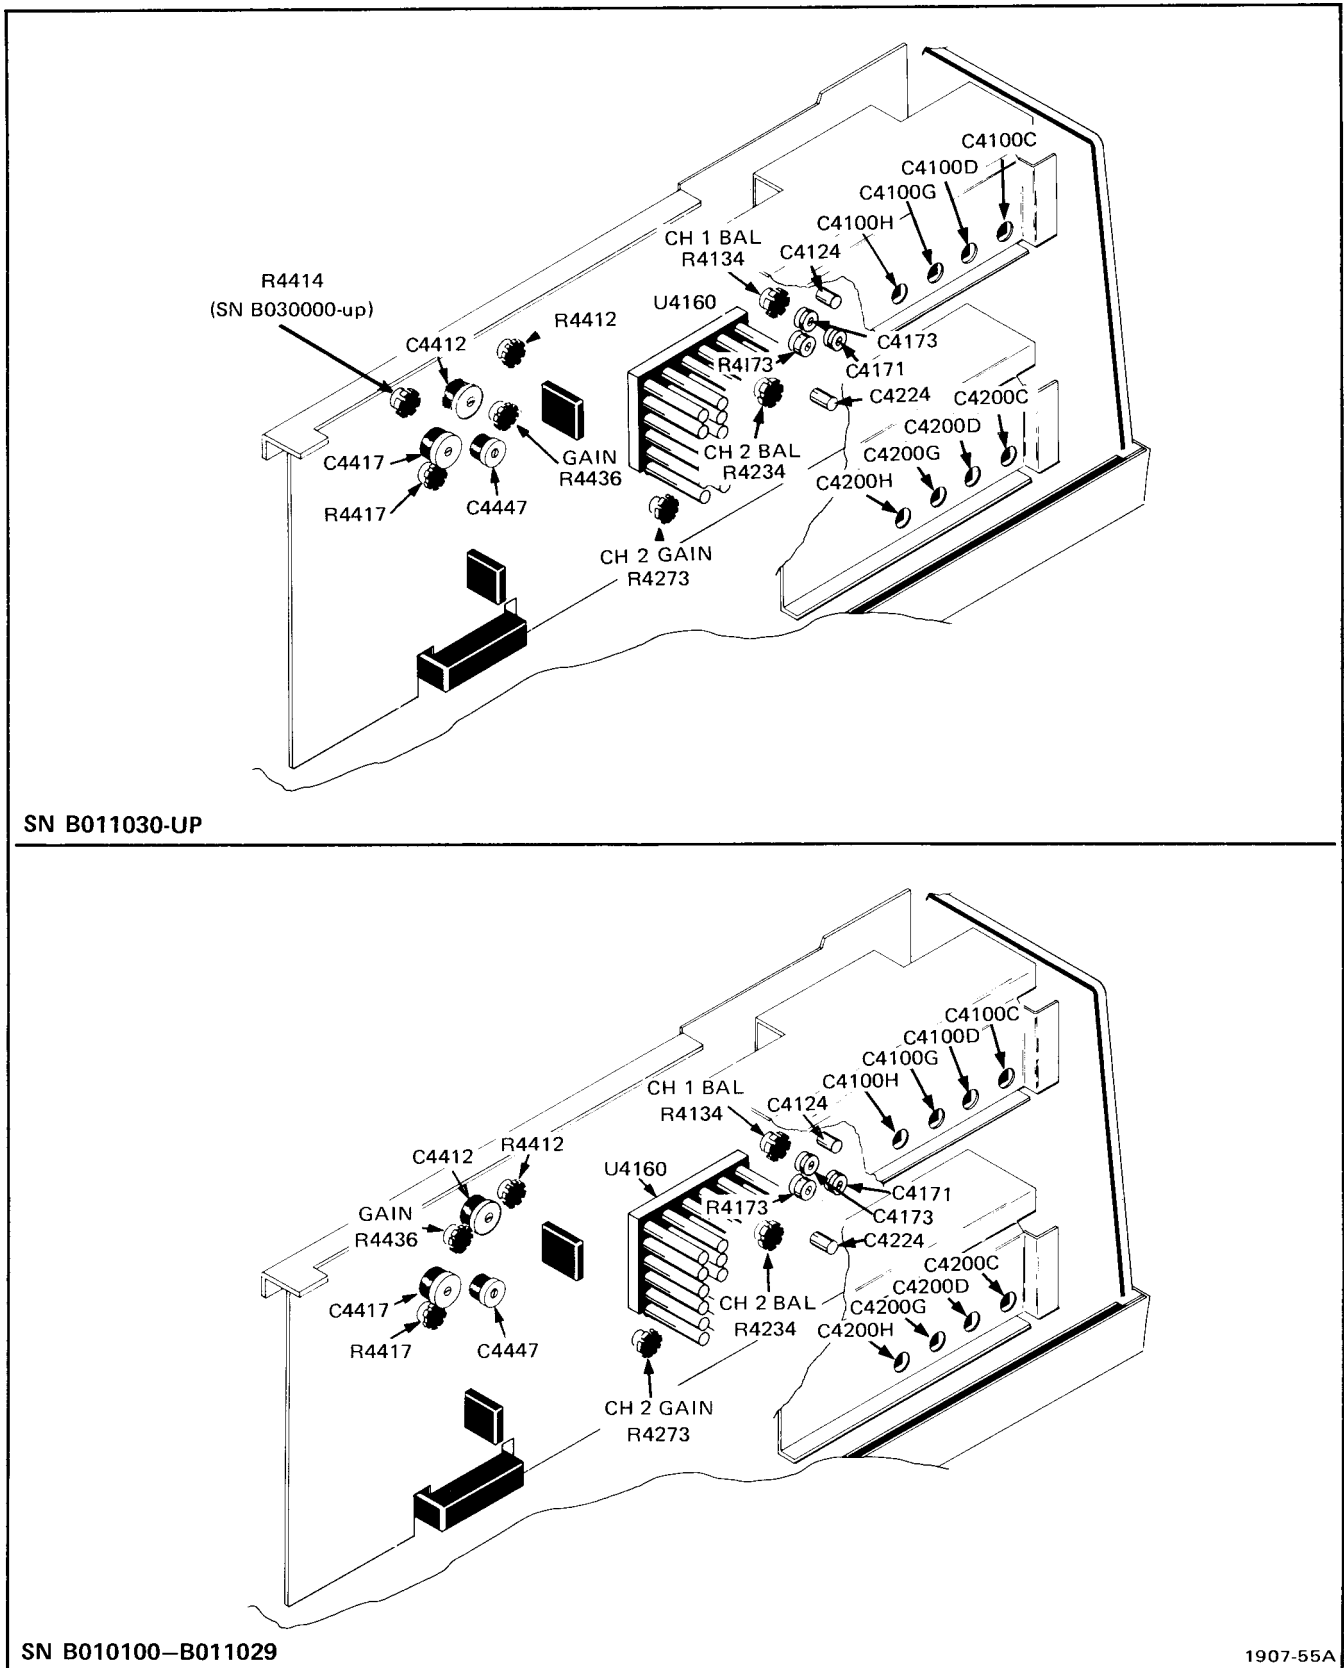

Fig. 6-4. Vertical adjustment locations.
Refer to Fig. 6-4 for vertical adjustment locations.
- c. ADJUST—C4124, C4100C, C4100D, C4100G and C4100H (see Fig. 6-4) according to Table 6-2. Use alignment tool listed in Test Equipment Required.
- d. ADJUST—C4417, R4417, C4447, R4412 and C4412 (see Fig. 6-4) for best transient response (also R4414, SN B030000-up). See note below. Total aberrations should not exceed 0.75 minor divisions (3%).
- g. ADJUST—C4171, C4173, and R4173 (see Fig. 6-4) for best transient response.